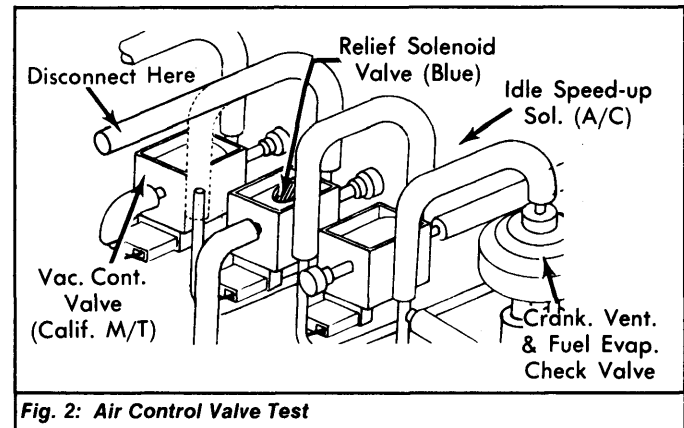

Fig. 2: Air Control Valve Test
- 1) After ensuring air pump and all hoses are okay, check carburetor and air control valve attaching nuts for tightness. Disconnect vacuum sensing tube from relief solenoid valve. See Fig. 2. Disconnect air control valve hose at air cleaner.